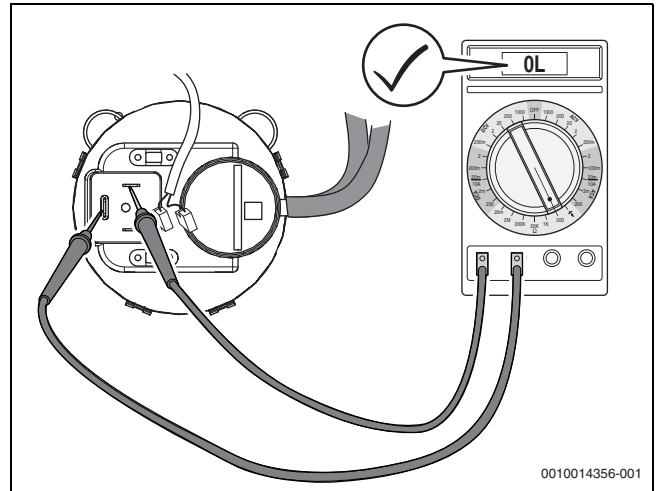
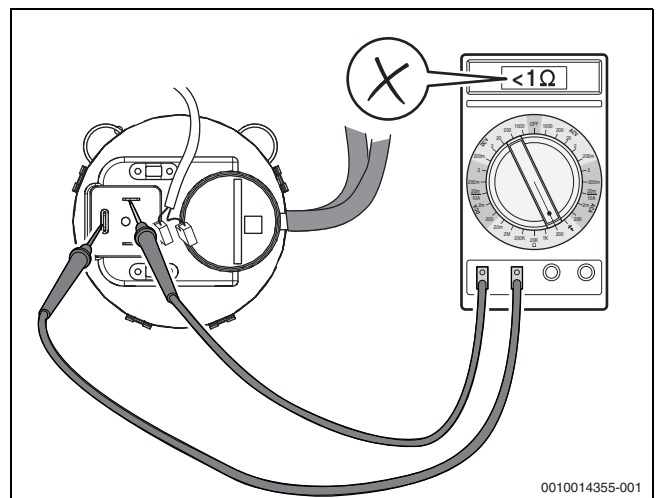

Fig. 70 Test the continuity of the differential pressure switch (differential pressure switch ok).
Fig. 71 Measure the electrical resistance across the contacts of the differential pressure switch (differential pressure switch **not** ok)
- Pull off electrical connections at the differential pressure switch and measure the resistance across the contacts (→Fig. 70). If no value, or a resistance of  $> 1 \text{ ohm}$ , is displayed, the differential pressure switch is ok. If the value measured is  $< 1 \text{ ohm}$  (or signal tone, depending on measuring device; →Fig. 71), the differential pressure switch is ok.